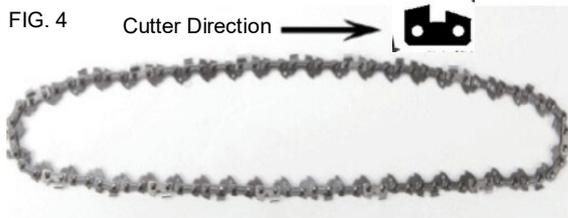

FIG. 4
6. Lay out the new chain in a loop, and straighten any kinks. The cutters should face in the direction of the chain rotation. If they face backwards, turn the loop over. (Fig. 4)